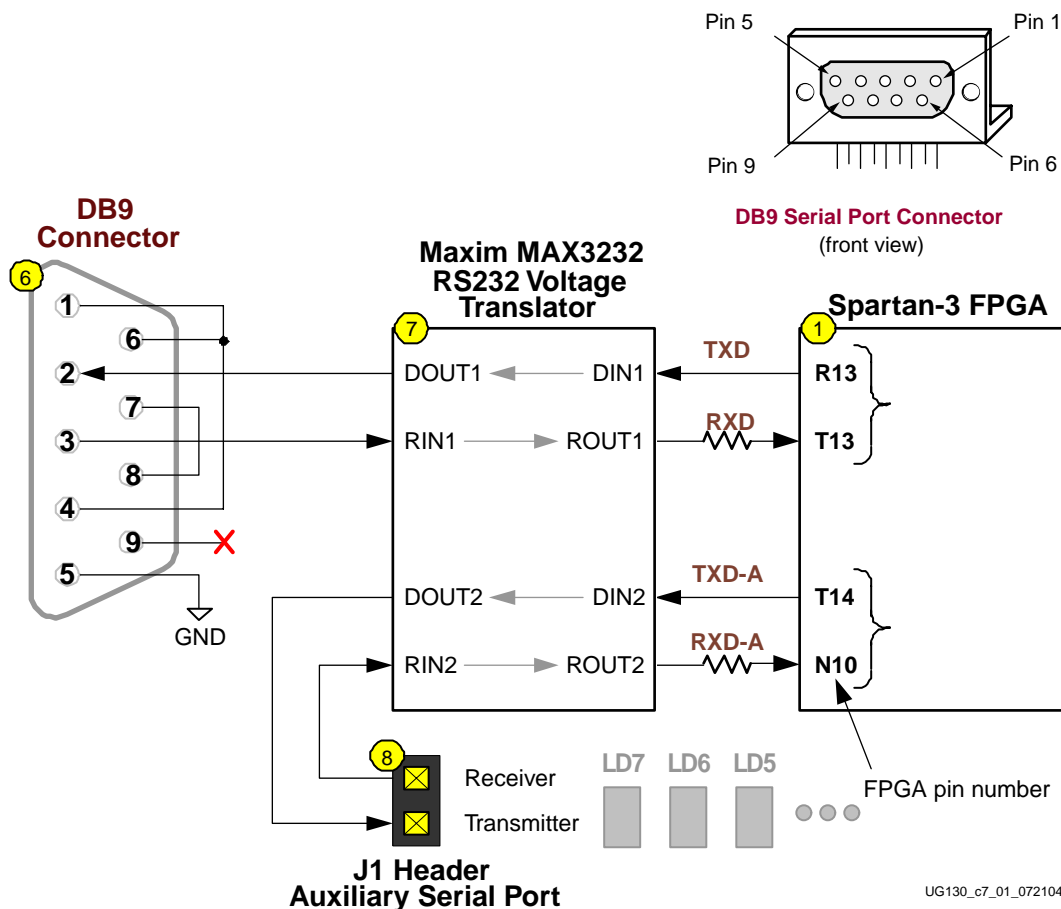

Figure 7-1: RS-232 Serial Port
Figure 7-1 shows the connection between the FPGA and the DB9 connector, including the Maxim MAX3232 RS-232 voltage converter, indicated as ⑦ in Figure 1-2. The FPGA supplies serial output data as LVTTL or LVCMOS levels to the Maxim device, which in turn, converts the logic value to the appropriate RS-232 voltage level. Likewise, the Maxim
Hardware flow control is not supported on the connector. The port's DCD, DTR, and DSR signals connect together, as shown in Figure 7-1. Similarly, the port's RTS and CTS signals connect together.